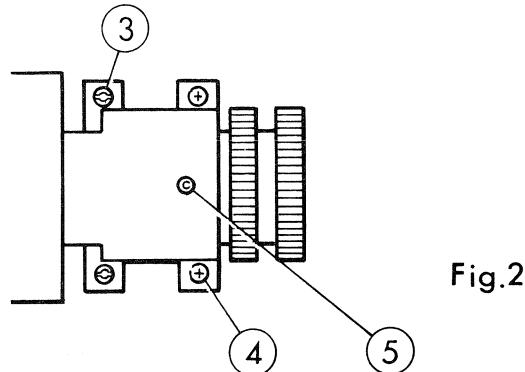

Fig.2
- (1) Scale ring adjustment: In this adjustment, the focusing surface splits and changes before getting focused near the center by turning the ring.
- (2) Resolution of 2.5 M as well as reading up to 3 M is possible when IN NEGA SCYCLE is applied. The iris here shall open to the extent the white fades away.
- (3) The screw in the Fig. 2 shall have screw lock coating.